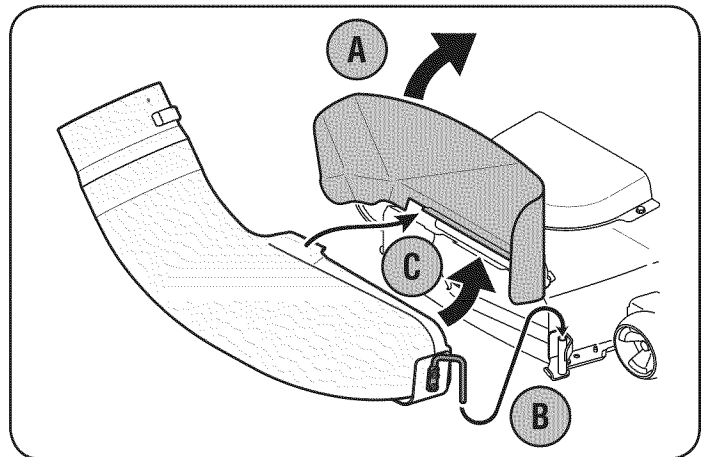

Figure 22
3. Raise the chute deflector (A in Fig. 22) on the deck and hold it while you position the discharge chute over the chute opening.
4. Insert the hinge pin of the discharge chute into the tube on the chute stop bracket. See B in Fig. 22.
5. Rotate the chute around the deck so that its front edge fits snugly into the deck opening. Lower the chute deflector slowly (C in Fig. 22).